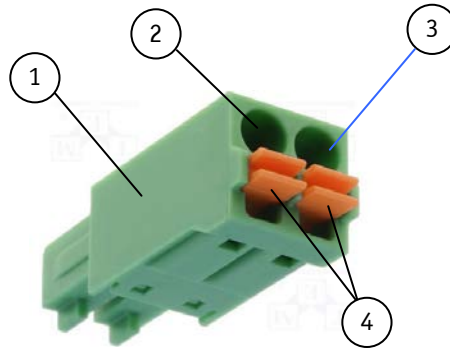
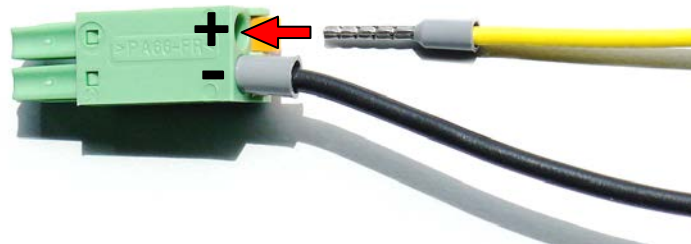

Fig. 20: Phoenix power plug terminal
Fig. 21: Cabling the Phoenix power plug (shown with optional ferrules)
3. The power connector is equipped with "push-in" spring clamps. Insert the wires into the corresponding clamp of the Phoenix plug terminal. Make sure that you have the right polarity of the connection (refer to Fig. 9, Fig. 20, Fig. 21).
4. For releasing/removing the cable from the connector, press in the orange release button using a screw driver and pull out the cable (Fig. 20, pos. 4)
The DC input connector (Fig. 8 and Fig. 9, marked X101) is located on the front side of the KBox A-201/A-202. The KBox A-201/A-202 will be connected to a DC main power supply via the supplied Phoenix power plug terminal (see Fig. 20) and corresponding power wires (not included).
The wires used for power connections must be clearly marked (+/-) to ensure that they will be proper connected to the DC IN connector of the KBox A-201/A-202 and to the main power source, corresponding to signals marked. Refer to Fig. 9 and Fig. 20.